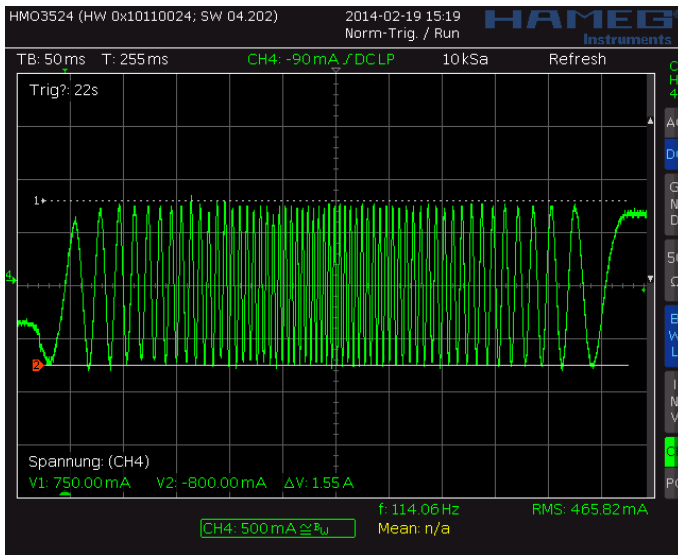
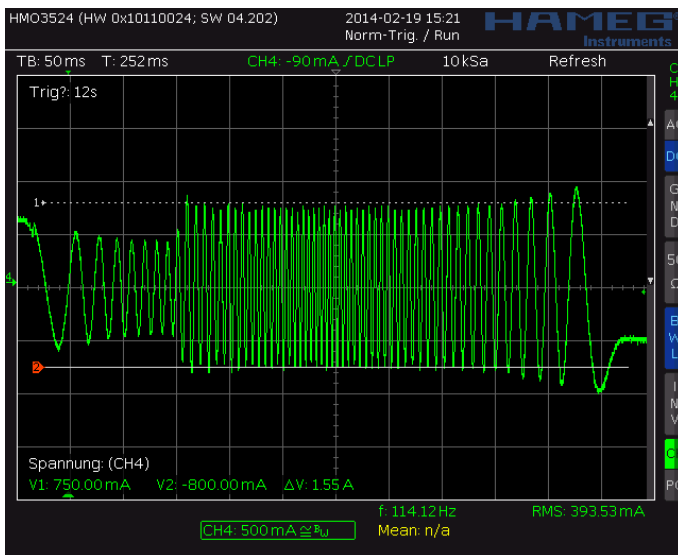
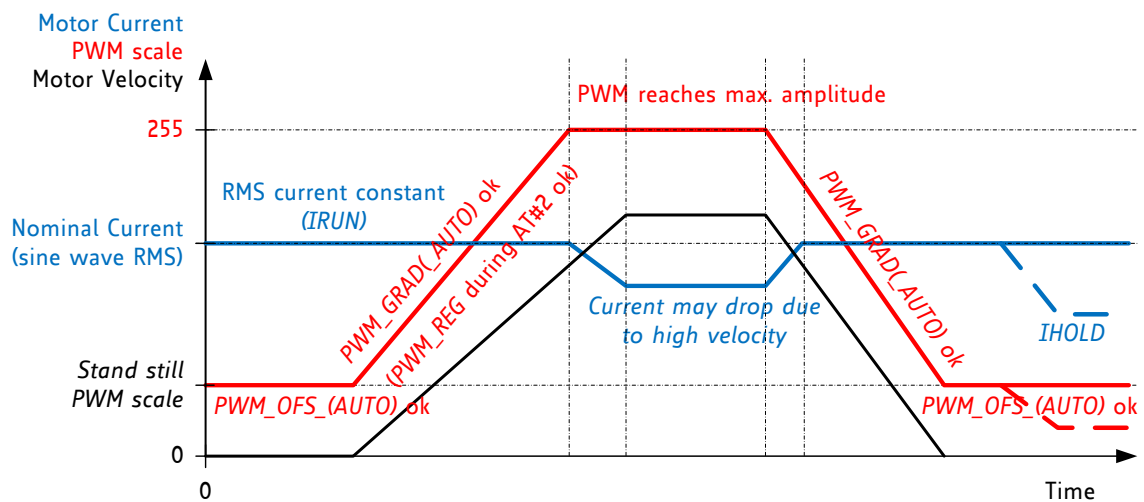

Figure 6.3 Scope shot: good setting for PWM\_REG
Figure 6.4 Scope shot: too small setting for PWM\_REG during AT#2
Figure 6.5 Successfully determined PWM\_GRAD(AUTO) and PWM\_OFS(AUTO)
In StealthChop voltage PWM mode, the autoscaling function ( $pwm\_autoscale = 1$ ,  $pwm\_autograd = 1$ ) regulates the motor current to the desired current setting. Automatic scaling is used as part of the automatic tuning process (AT), and for subsequent tracking of changes within the motor parameters. The driver measures the motor current during the chopper on time and uses a proportional regulator to regulate  $PWM\_SCALE\_AUTO$  in order match the motor current to the target current.  $PWM\_REG$  is the proportionality coefficient for this regulator. Basically, the proportionality coefficient should be as small as possible in order to get a stable and soft regulation behavior, but it must be large enough to allow the driver to quickly react to changes caused by variation of the motor target current (e.g. change of VREF). During initial tuning step AT#2,  $PWM\_REG$  also compensates for the change of motor velocity. Therefore, a high acceleration during AT#2 will require a higher setting of  $PWM\_REG$ . With careful selection of homing velocity and acceleration, a minimum setting of the regulation gradient often is sufficient ( $PWM\_REG=1$ ).  $PWM\_REG$  setting should be optimized for the fastest required acceleration and deceleration ramp (compare Figure 6.3 and Figure 6.4). The quality of the setting  $PWM\_REG$  in phase AT#2 and the finished automatic tuning procedure (or non-automatic settings for  $PWM\_OFS$  and  $PWM\_GRAD$ ) can be examined when monitoring motor current during an acceleration phase Figure 6.5.